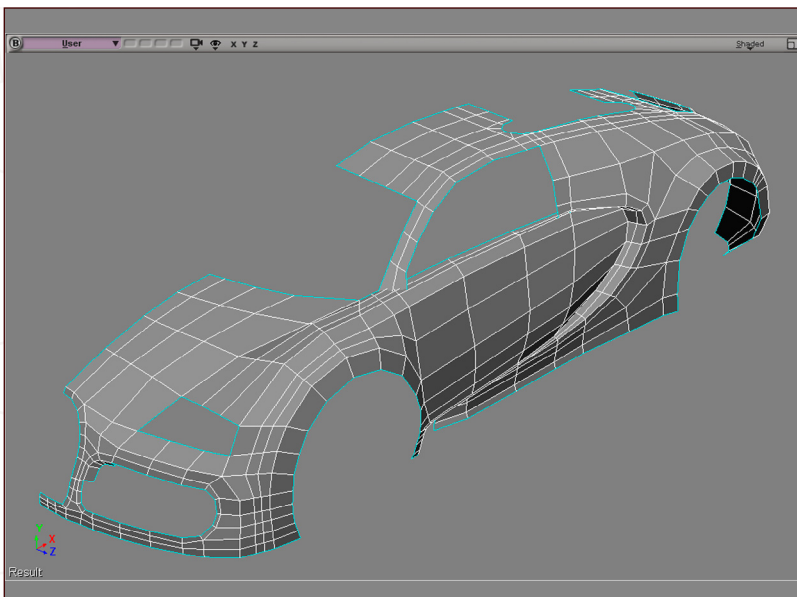

Fig 24
24. At the end, spend some time checking the reference photographs and adjust the parts that need to be modified (Fig24).